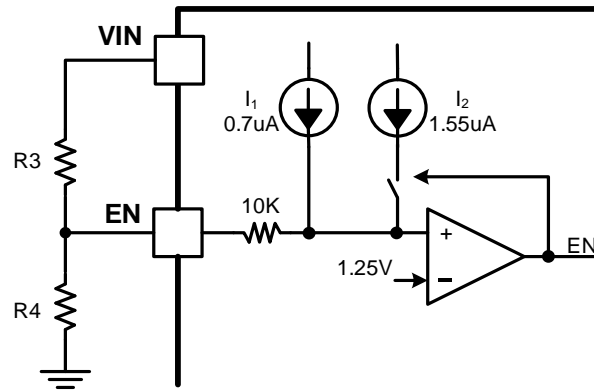

Figure 8. Adjustable VIN UVLO
An internal 0.7uA pull up current source connected from internal LDO power rail to EN pin guarantees that floating EN pin automatically enables the device. For the application requiring higher VIN UVLO voltage than the default setup, there is a 1.55uA hysteresis pull up current source on EN pin which configures the VIN UVLO voltage with an off-chip resistor divider R3 and R4, shown in Figure 8. The resistor divider R3 and R4 are calculated by equation (1) and (2).